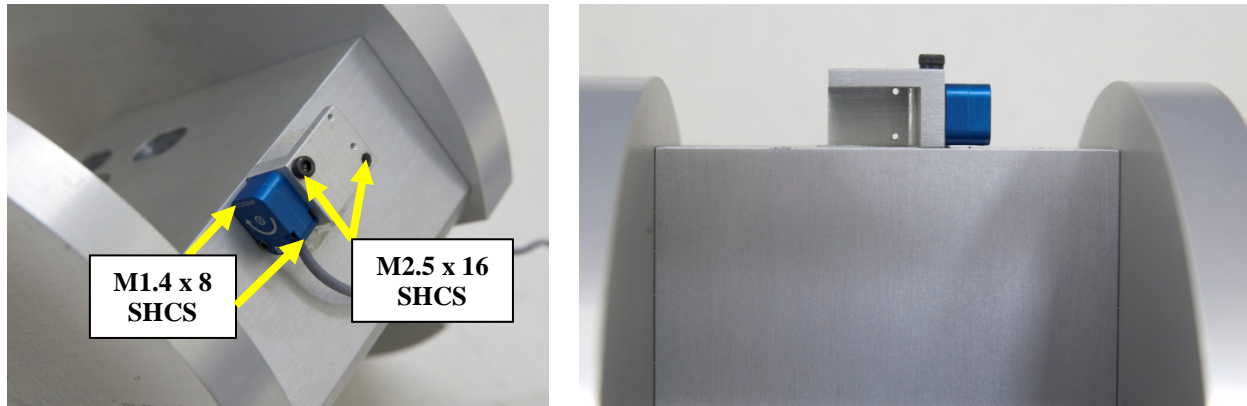
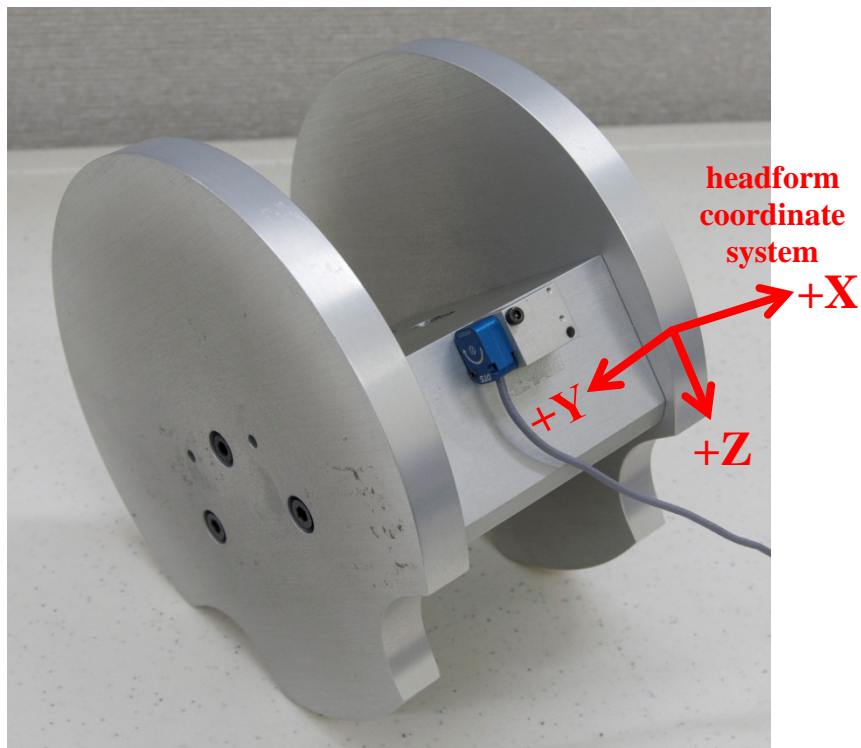

Figure 140. Install ARS to mount then to front of headform
Figure 141. ARS installed to headform for lumbar flexion tests
- Align and insert the alignment pin on the lumbar interface (Figure 140) to the back of the headform (Figure 141).